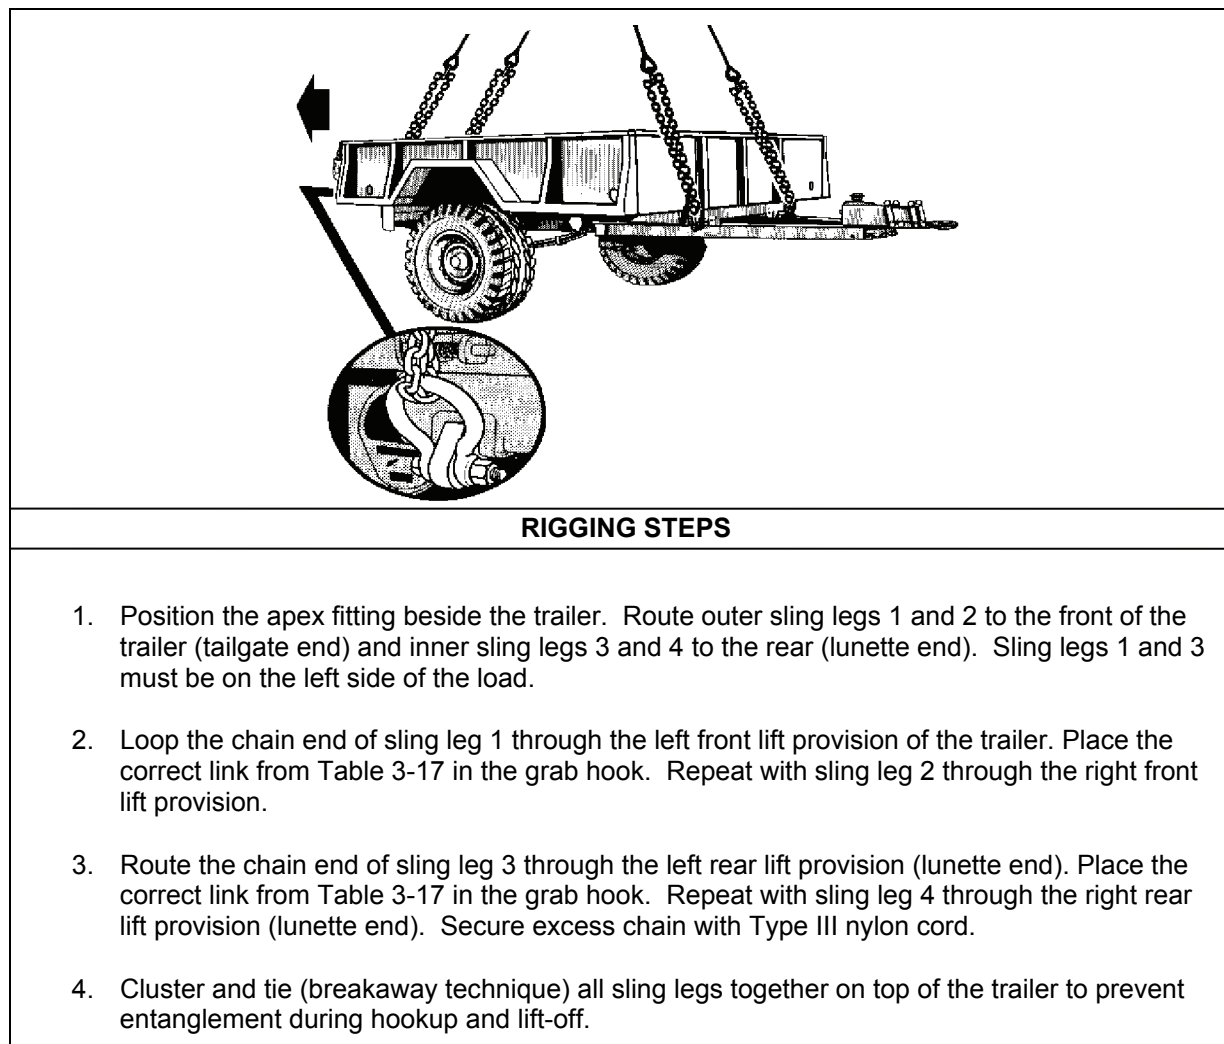

Figure 3-17. M105A3 Trailer
- **Rigging.** Rig the load according to the steps in Figure 3-17.